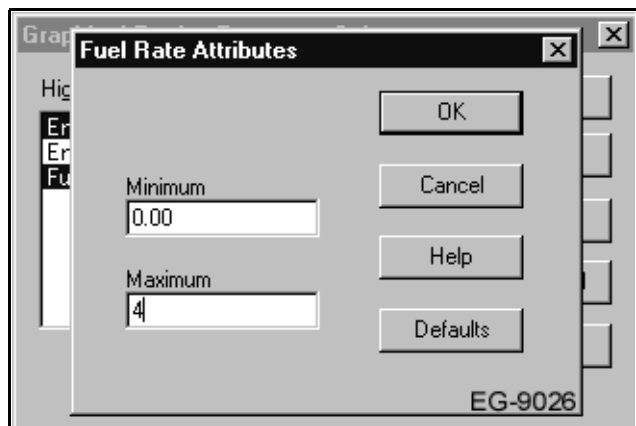

Figure 185 Modified Fuel Rate Attributes
10. Modify **Fuel Rate Attributes**. Enter 4 for maximum value (See Figure 185, page 376). Select **OK**.